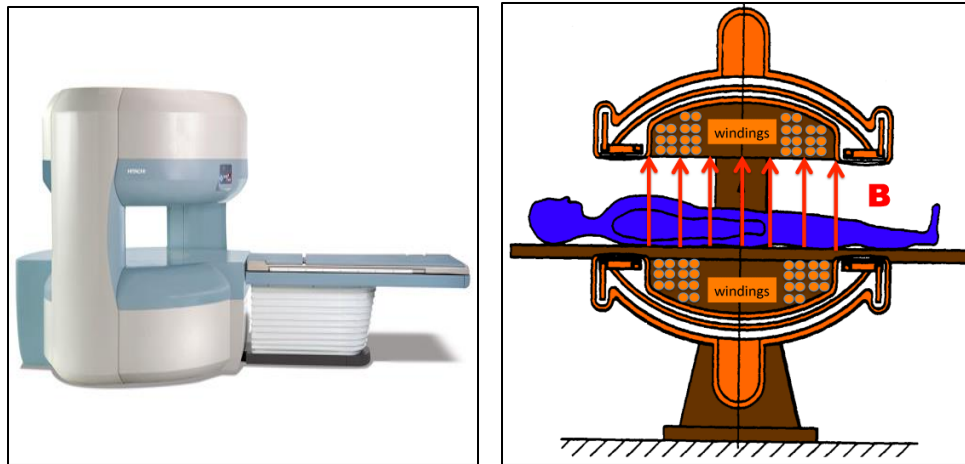

Figure 8. **Left:** superconducting scanner, **right:** dipolar electromagnet design.
- 3. Dipolar electromagnet** configuration with coils on either side of the patient. These coils can be superconductive or resistive and range from 0.5T to 1.2T (figure 8).